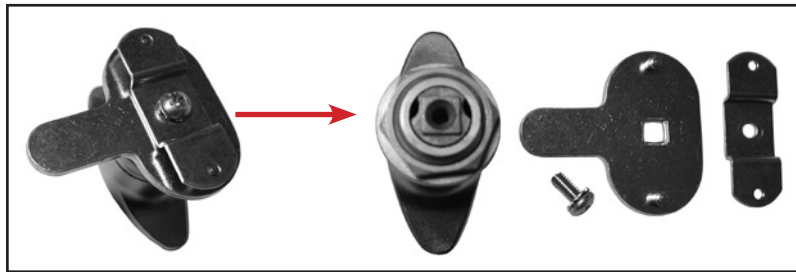

Figure 1
1. Remove screw and the cam assembly from the back of the handle and set aside. **(Fig. 1)**